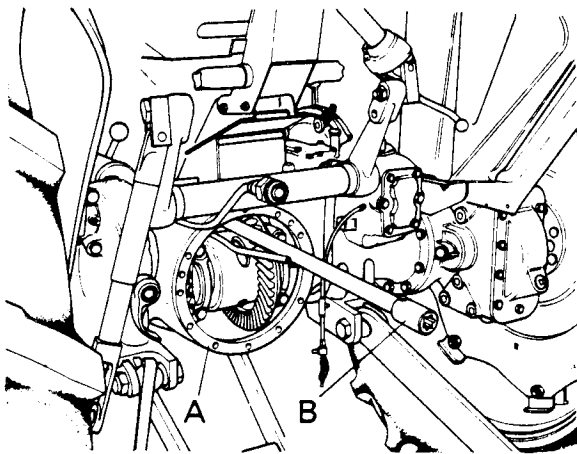

Figure 39.
7. After removing sensing unit, remove the twelve bolts attaching PTO case to axle case then remove PTO unit so that cardan shaft can be withdrawn clear of clutch. (Fig. 39.)
13. Remove sensing unit from PTO case, then remove PTO unit from rear axle case. Withdraw cardan shaft: if coupling is not bolted to cardan shaft, insert a bolt through hole in shaft end so the shaft can be levered out until it is clear of clutch. (Fig. 39.)